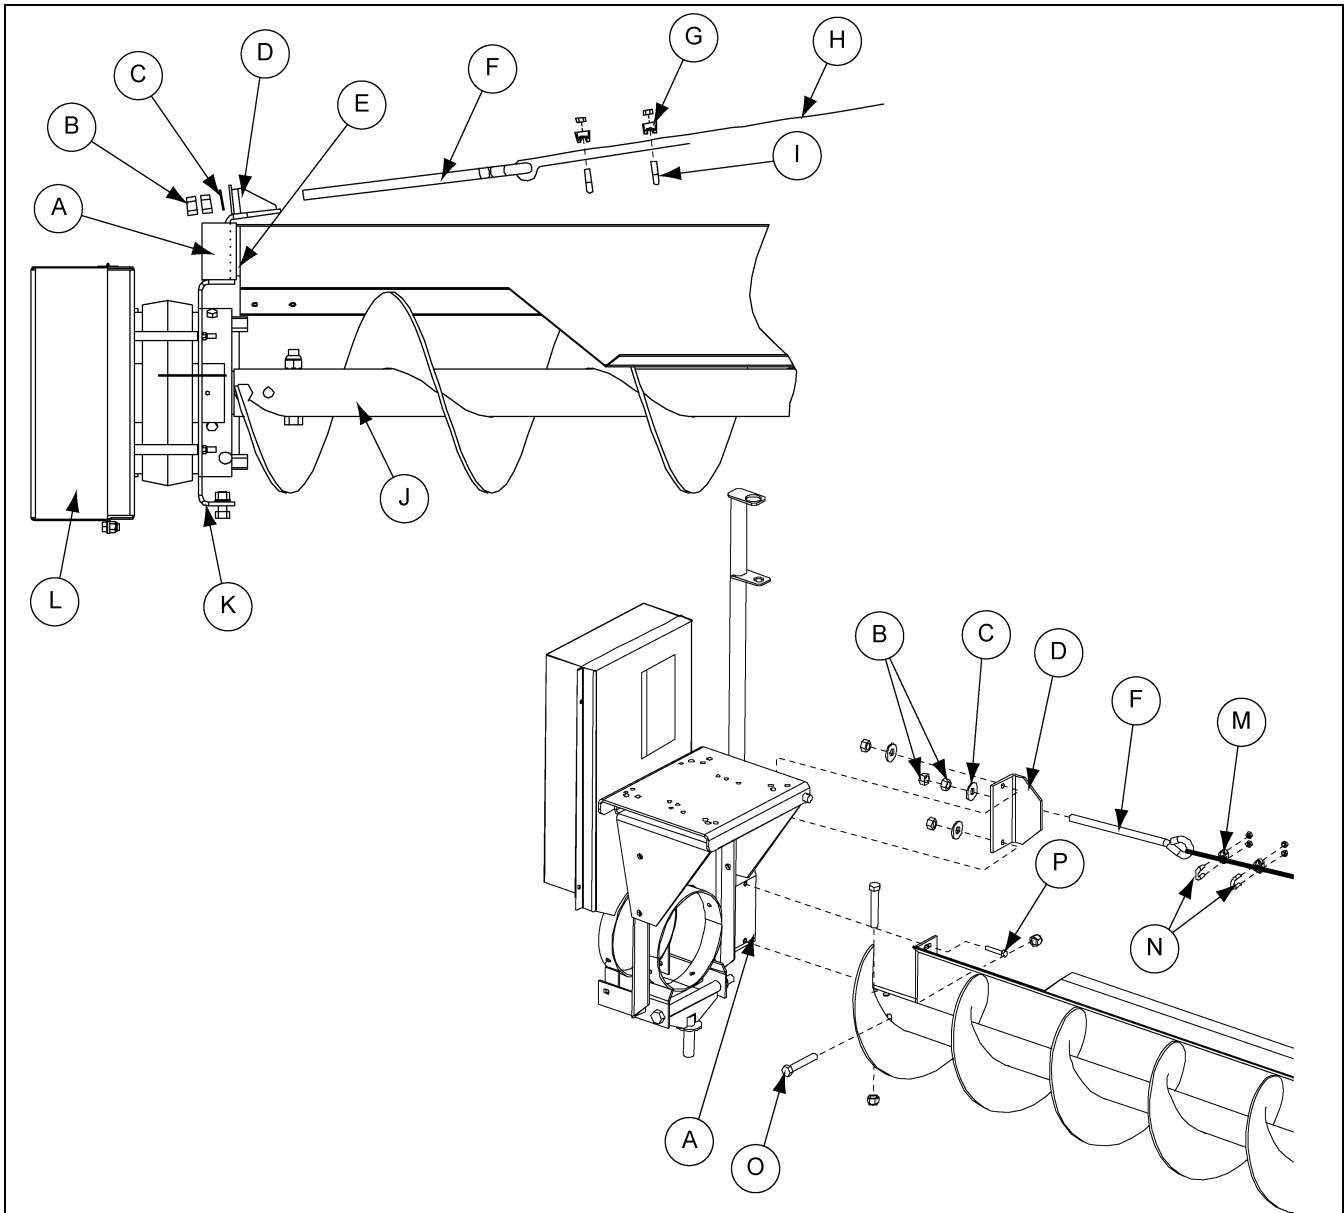

Figure 4N Truss Cable Take-Up Detail (As viewed from the top.)
NOTE: On larger units that use four (4) or more sections of flight (68' to 120' diameter bins) a cable truss is provided for the sweep back shields. On these units the truss cable take-up bracket must be attached to the back shield mounting bracket with the same bolts that hold the sweep back shield. The mounting bracket will be sandwiched between the cable bracket and the back shield. (See Figure 4N on Page 27.) Use two (2) 3/8" x 1-1/2" long hex head cap screws, flat washers, lock washers and nuts to fasten the take-up bracket and sweep back shield to the shield mount plate.
On units that use four (4) or more sections of flight, a cable is provided for the sweep back shields. A truss cable anchor will be attached to the bearing stand and shield joint of the last section. (See Figure 4N on Page 27.) Use the same 3/8" bolts to connect the sweep back shield, bracket, and truss cable anchor together.
1. Install eye bolt (F) through anchor on cable take-up bracket (D), using flat washer and two (2) 5/8" hex nuts. (See Figure 4N on Page 27.)
Secure the clamp U-bolts against the loose end of the cable. (See Figure 4N on Page 27.)
5. Attach truss cable (H) to eye bolt (F) using two (2) cable clamps (M). (See Figure 4N on Page 27.)
6. Using the eye bolt (F), tighten the truss cable (H) until it is reasonably snug.